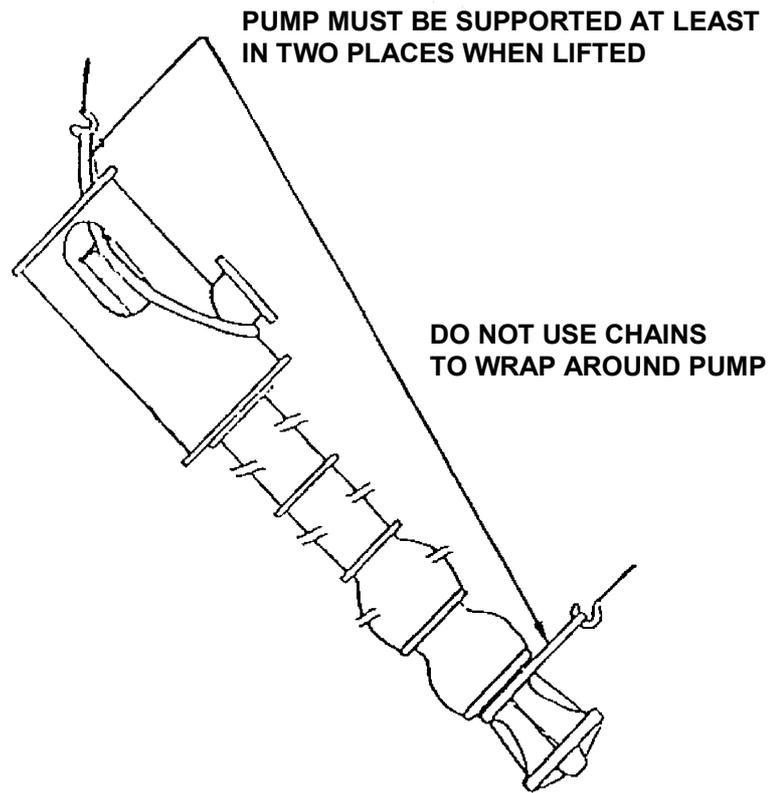

Figure 2
Install lifting slings as shown in Figure 2 around the discharge head (361) flange and casings (1A/B/C). Rig to an overhead hoist (make certain that the slings can carry the weight of the pump) and raise the pump over the pit. Check pumping element to make sure all shipping straps and blocking have been removed. Lift the pump from horizontal position to vertical position. Remove lifting slings from casing. Lower the pump into the shell (359).